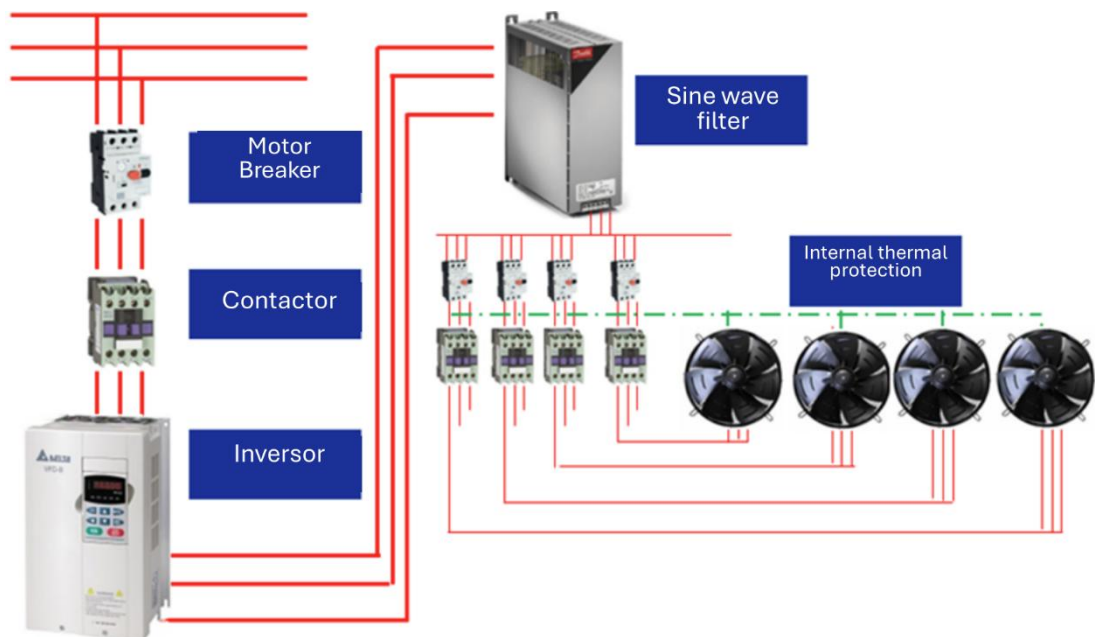
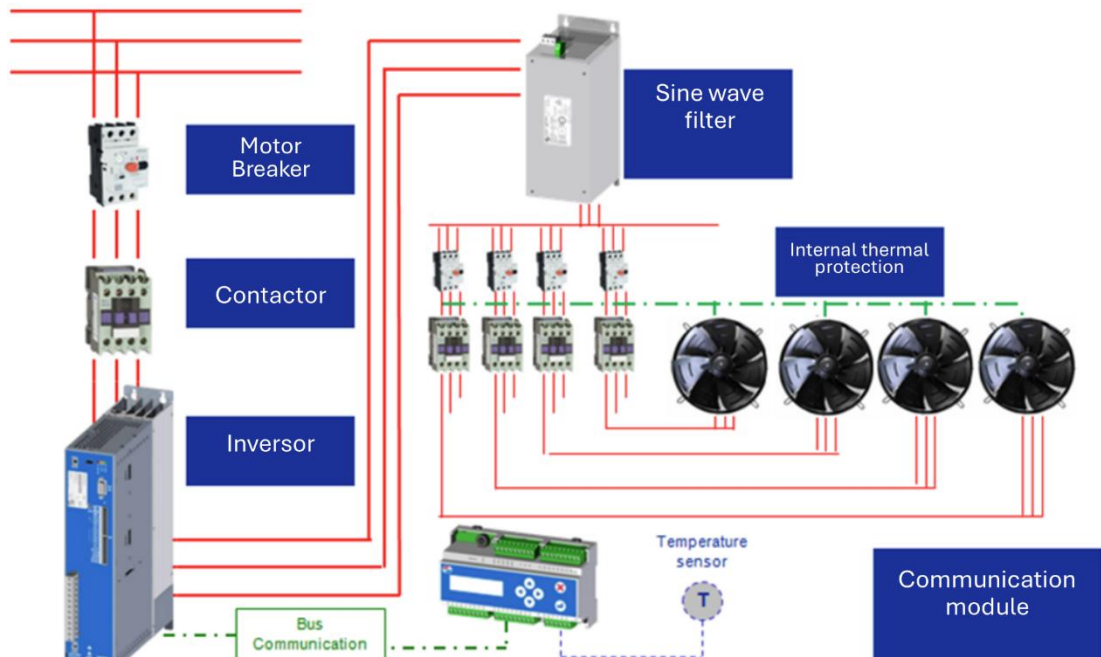

Figure 1 - Minimum assembly required for installation of inverters with multiple fans.
Figure 2 - Güntner alternative for solution with frequency inverter and GMM controller.
- A sine wave filter must be installed between the frequency inverter and the motor on all poles (sine wave output voltage filter effect between phase-phase, phase-ground), see Figure 1. Güntner alternative, see Figure 2;